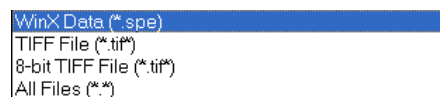

Figure 33. Save As Data Types
**Save as type:** Indicates the file type. The data types currently supported are listed in Figure 33. If **All Files (\*.\*)** is selected, you will be able to save the file with any extension. The file, however, will be saved in the \*.SPE file type format. *Only the data*